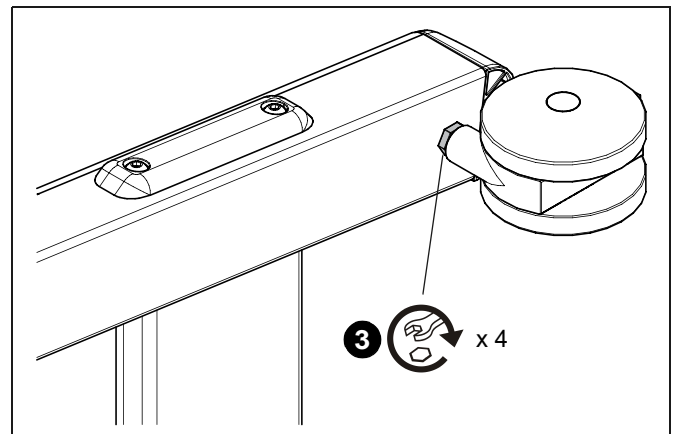

Figure 20
3. Check and tighten the hex nuts on the casters occasionally (See Figure 20). These should be checked especially after use on uneven ground.